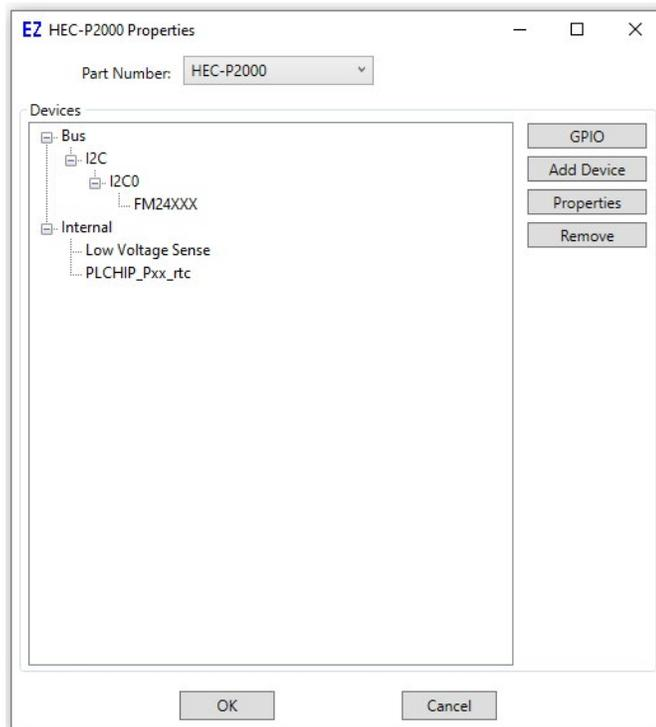

Figure 1.2 - HEC-P2000 Properties Window
3. Using the drop-down menu, select the model of the HEC-P2000 Series Controller (HEC-P2000, HEC-P2001 or HEC-P2010). Refer to Figure 1.2. Click **OK** to close the HEC-P2000 Properties window and the click **OK** to close the Project Settings window. Additional configuration settings are available from these sub-menus.